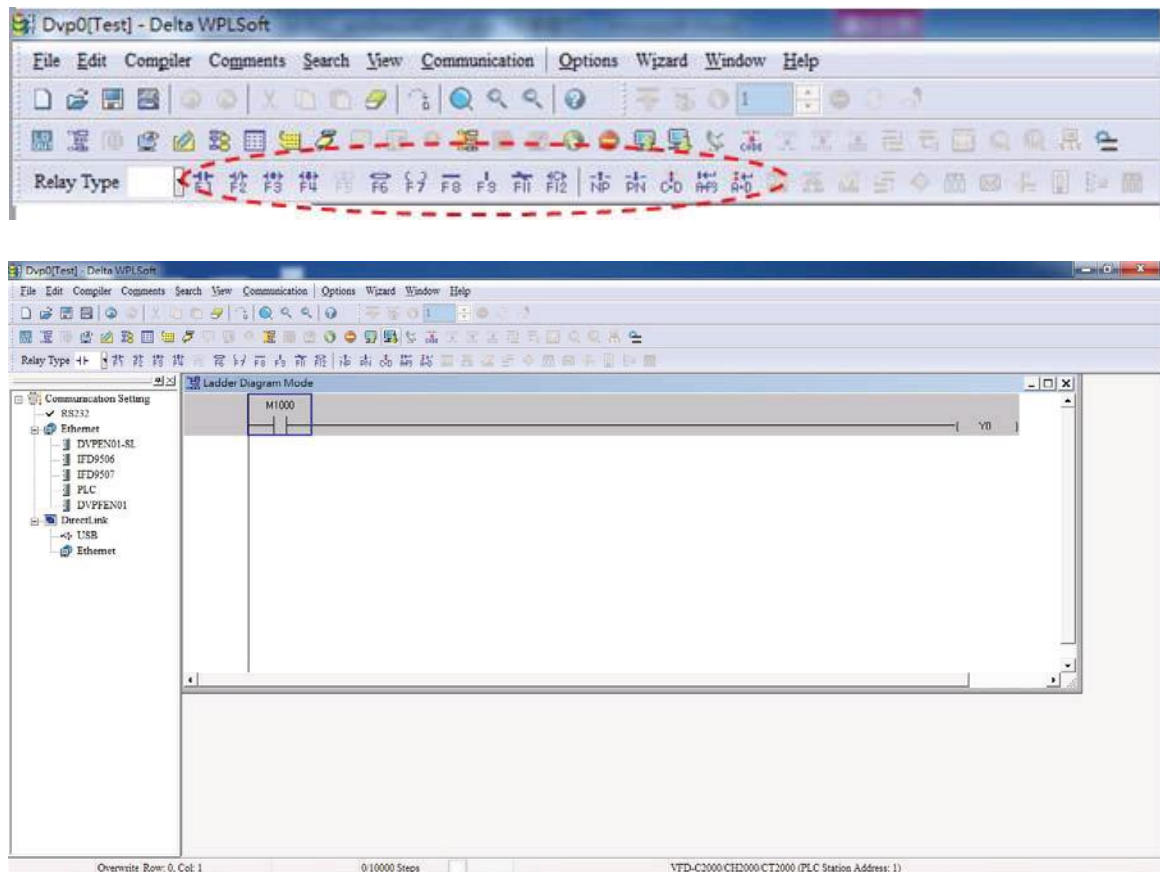

Figure 16-16
**NOTE** In the ladder diagram mode, you can use the buttons on the function icon row on the toolbar (see Figure 16-16) to edit the programs.